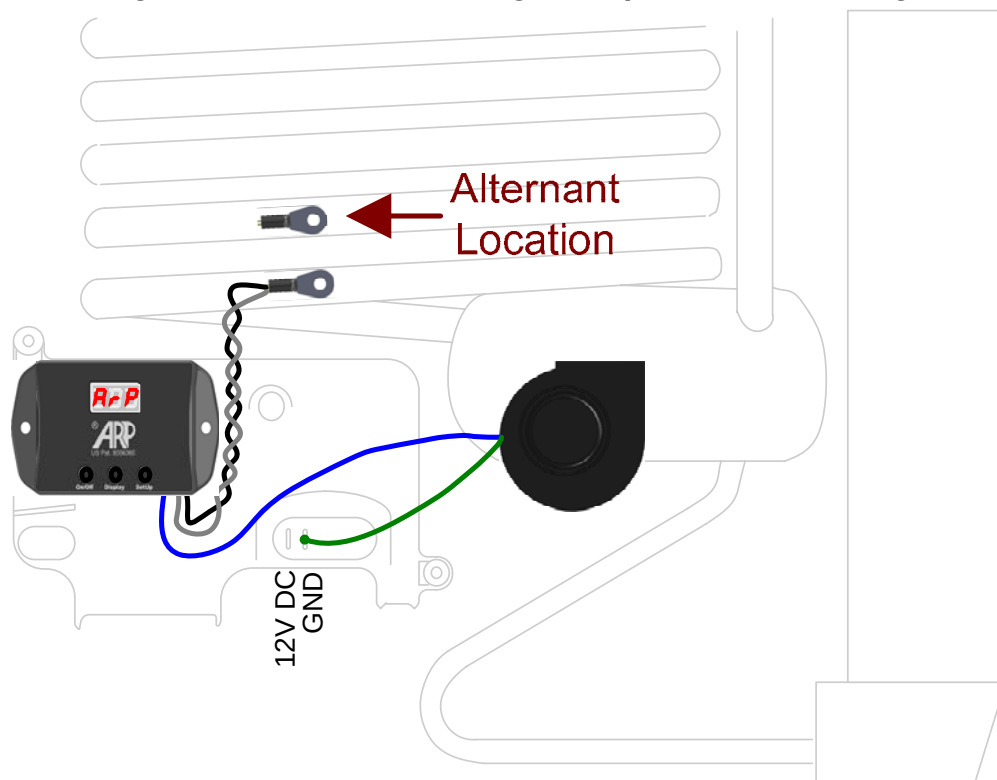

Fig. 10 Mount Additional Cooling Fans
- Hose Clamp to attach the v2.1 ARP + Fan Control temperature sensor to cooling unit tubing, see Fig. 10.
for installation. Fig 10 is provided here to show a typical fan installation. If you have a side vent installation the ARP + Fan Control is a must include item due to the poor ventilation resulting from this type of cooling unit venting.